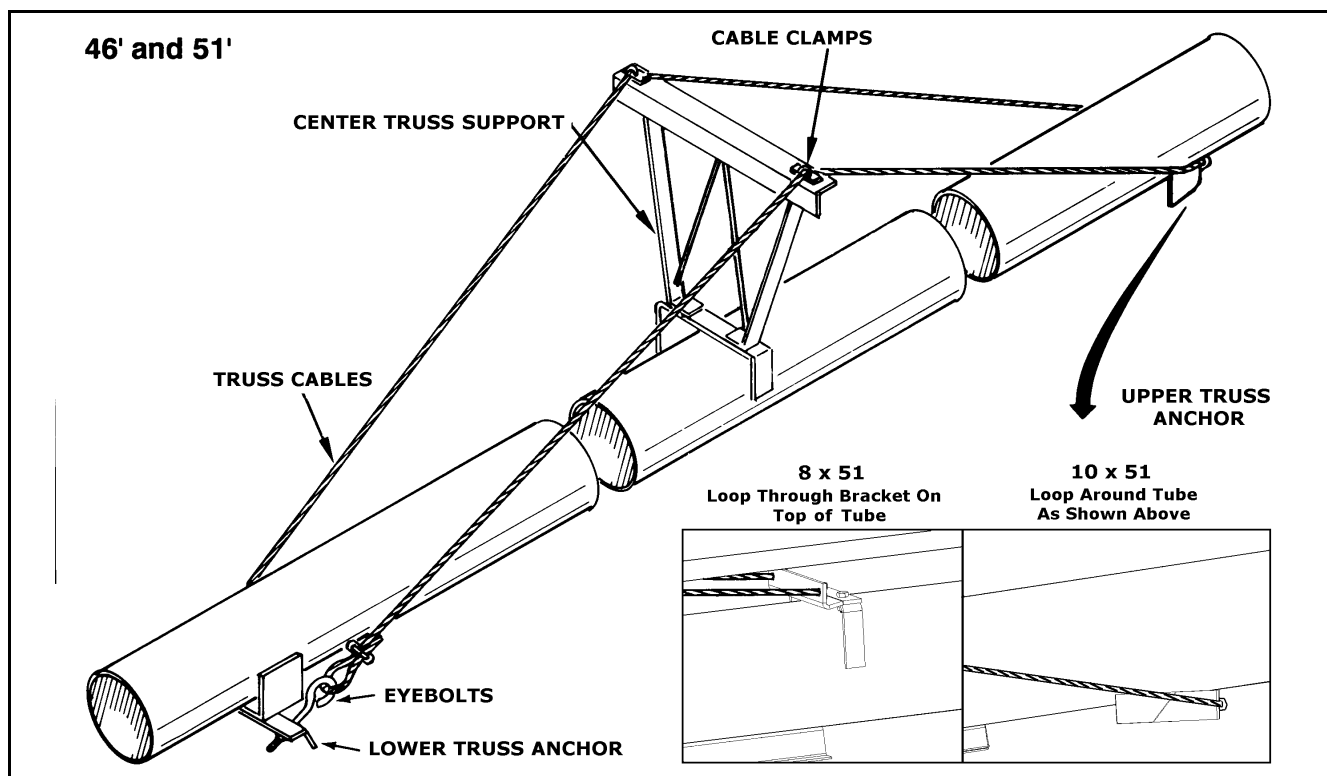

Figure 3.12
2. Fasten the center truss support bracket on 46' and 51' augers with two 7/16" x 1" bolts and locknuts (Figure 3.12).
Important: *Where applicable, make sure that the lower reach arms are attached to the proper reach arm bracket (Figure 3.12 and 3.13).*